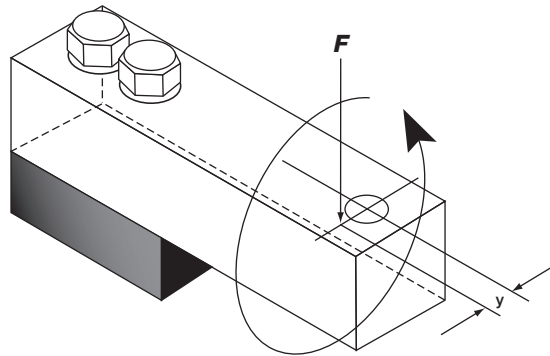

Figure 4-6. Twisting Loads
Figure 4-6 illustrates a torque of magnitude (Fy) exerted as the result of the load (F) being applied at a distance (y) from the loading hole center line.